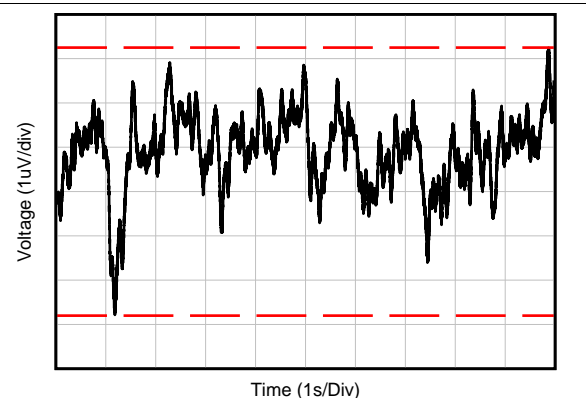

Figure 18. 0.1-Hz to 10-Hz Noise
0.1-Hz to 10-Hz Noise	Figure 18